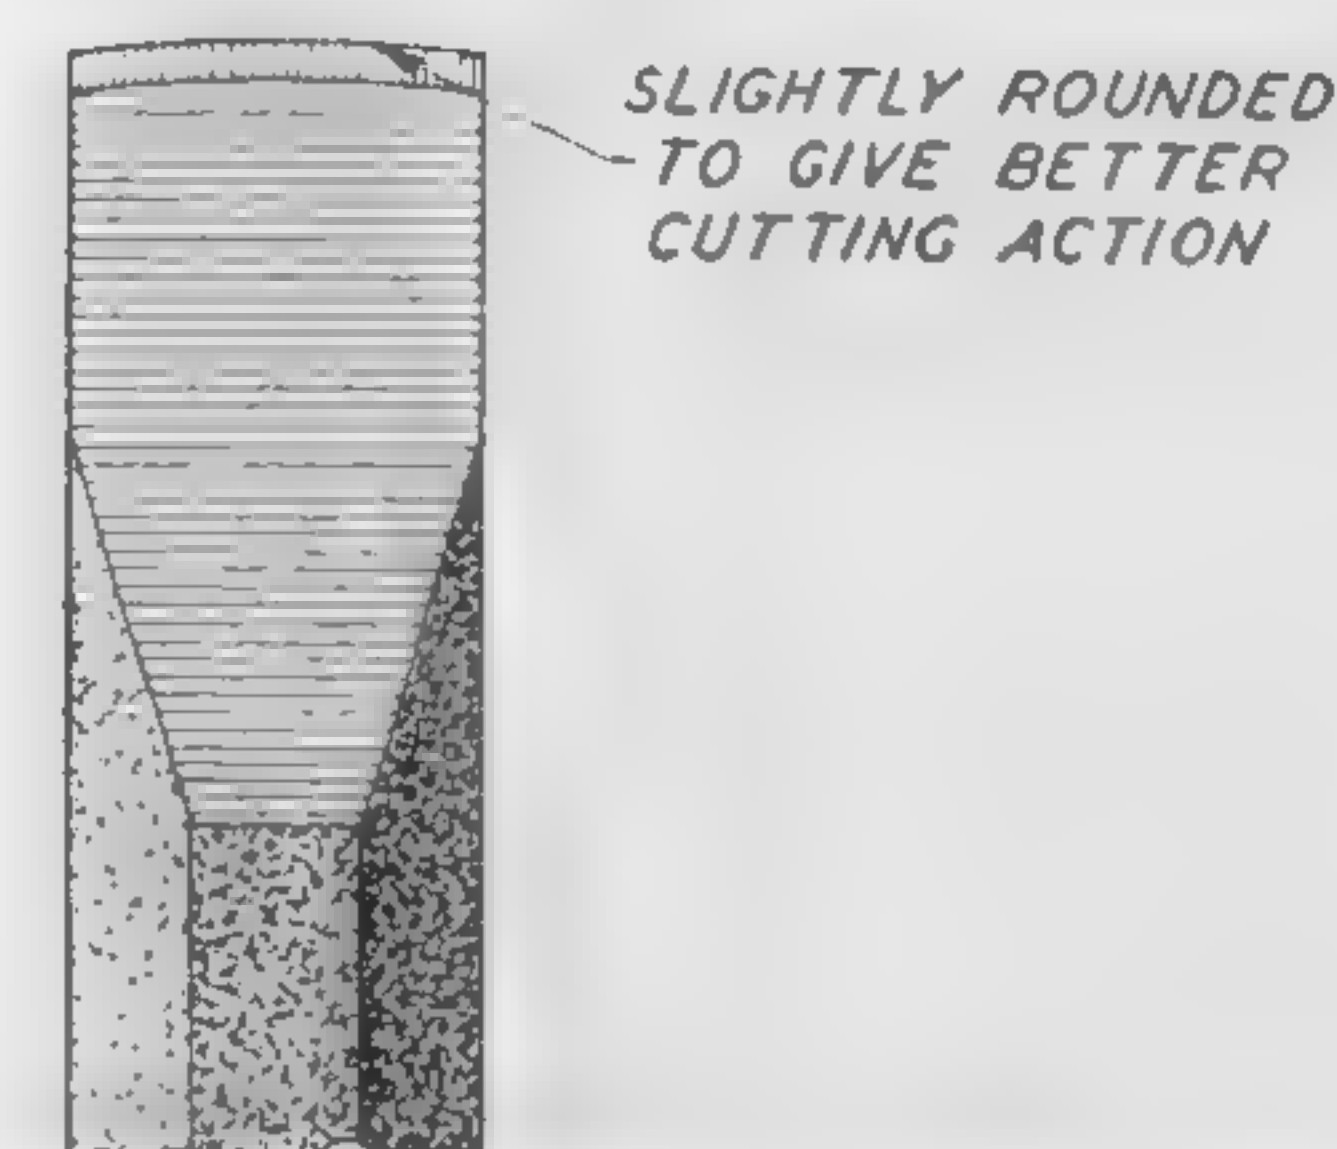

Fig. 3. Cutting Edge Correctly Ground
4. Grind the cutting edge slightly convex, see Fig. 3. If this is done, the corners are less likely to dig into the work being chiseled.